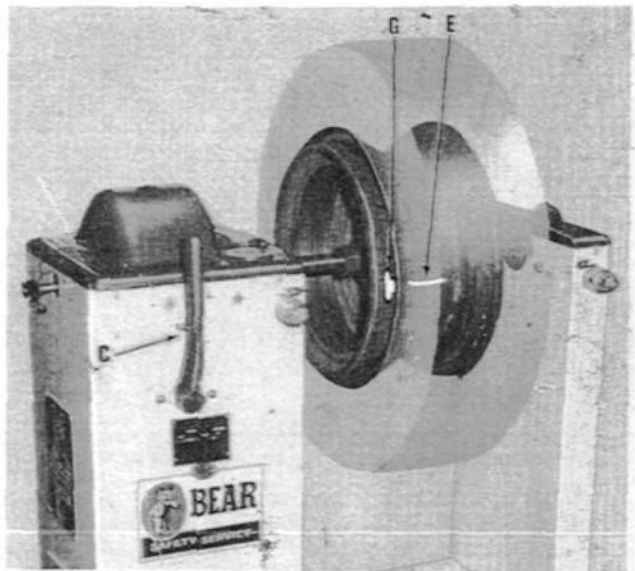
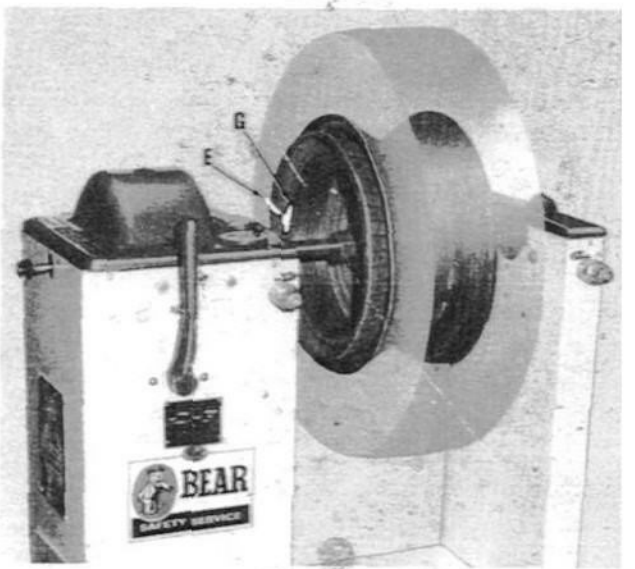

Fig. 12
Fig. 13
- a) If static weight is on operator's-side of balancer, G Fig. 12, more weight is needed at the static mark, E Fig. 12.
- b) If static weight is on the far side of the balancer, G Fig. 13, less weight is needed at the static mark, E Fig. 13.
5. If the static mark is not in the horizontal plane as shown, E Fig. 12, or, E Fig. 13, two dynamic weights of equal size must be added. Add one dynamic weight, I Fig. 14, on the indicated side in line with arrow at indicator dial, A Fig. 14, and the other dynamic weight across the tire half-way around the wheel (180°), I Fig. 14.